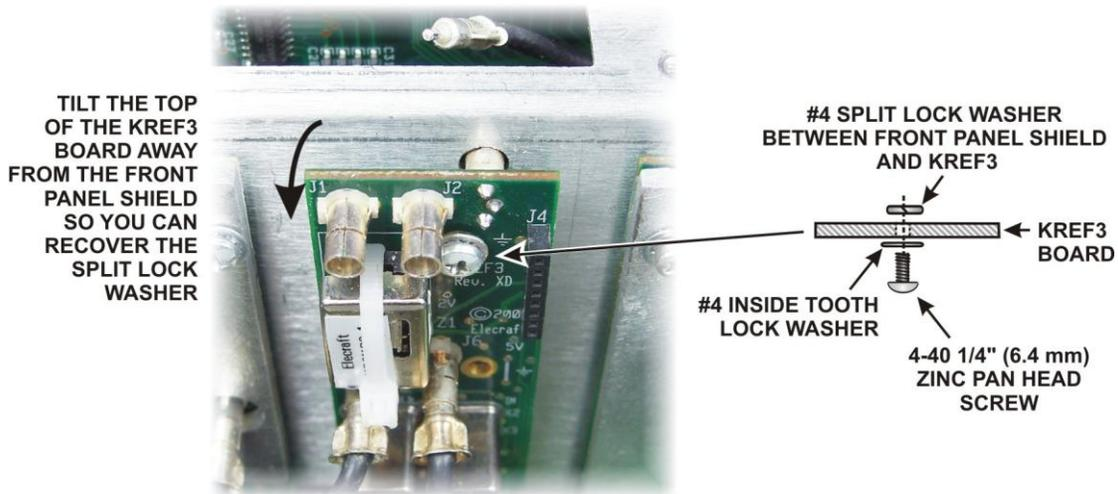

Figure 7. Removing the KREF3 Hardware.
- Carefully remove the mounting screw and washers holding the KREF3 board (see Figure 7). As you loosen the screw tilt the top of the KREF3 board away from the front panel shield and look for a split lock washer between the front panel shield and the KREF3 board. If present, remove it with your needle nose pliers.